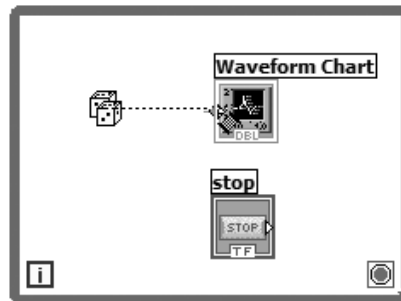

Figure 3.27
9. With the Wiring tool active, click once on the **Random Number (0-1)** icon, drag the mouse over to the Waveform Chart's terminal, and click again (see Figure 3.27).